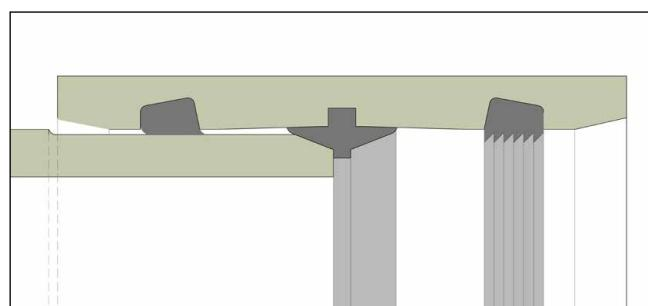

Fig. 24: FPCA coupling
5.1.3. PRESSURE COUPLING ANGULAR /FPCA-A (FIG. 24)